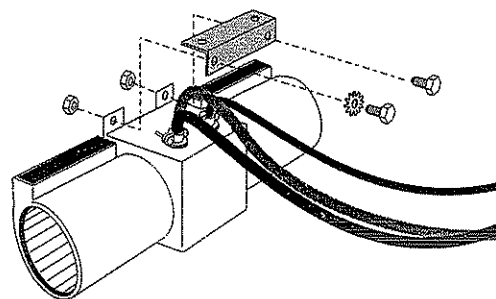

Figure 11. Attach the mounting bracket to the blower assembly.
3. Install the Mounting Bracket. Secure it to the blower assembly with two 1/4-20 x 3/4" hex head screws and one of the 1/4" star washers. Fig. 11.
4. Attach the fan assembly. Fig. 11.